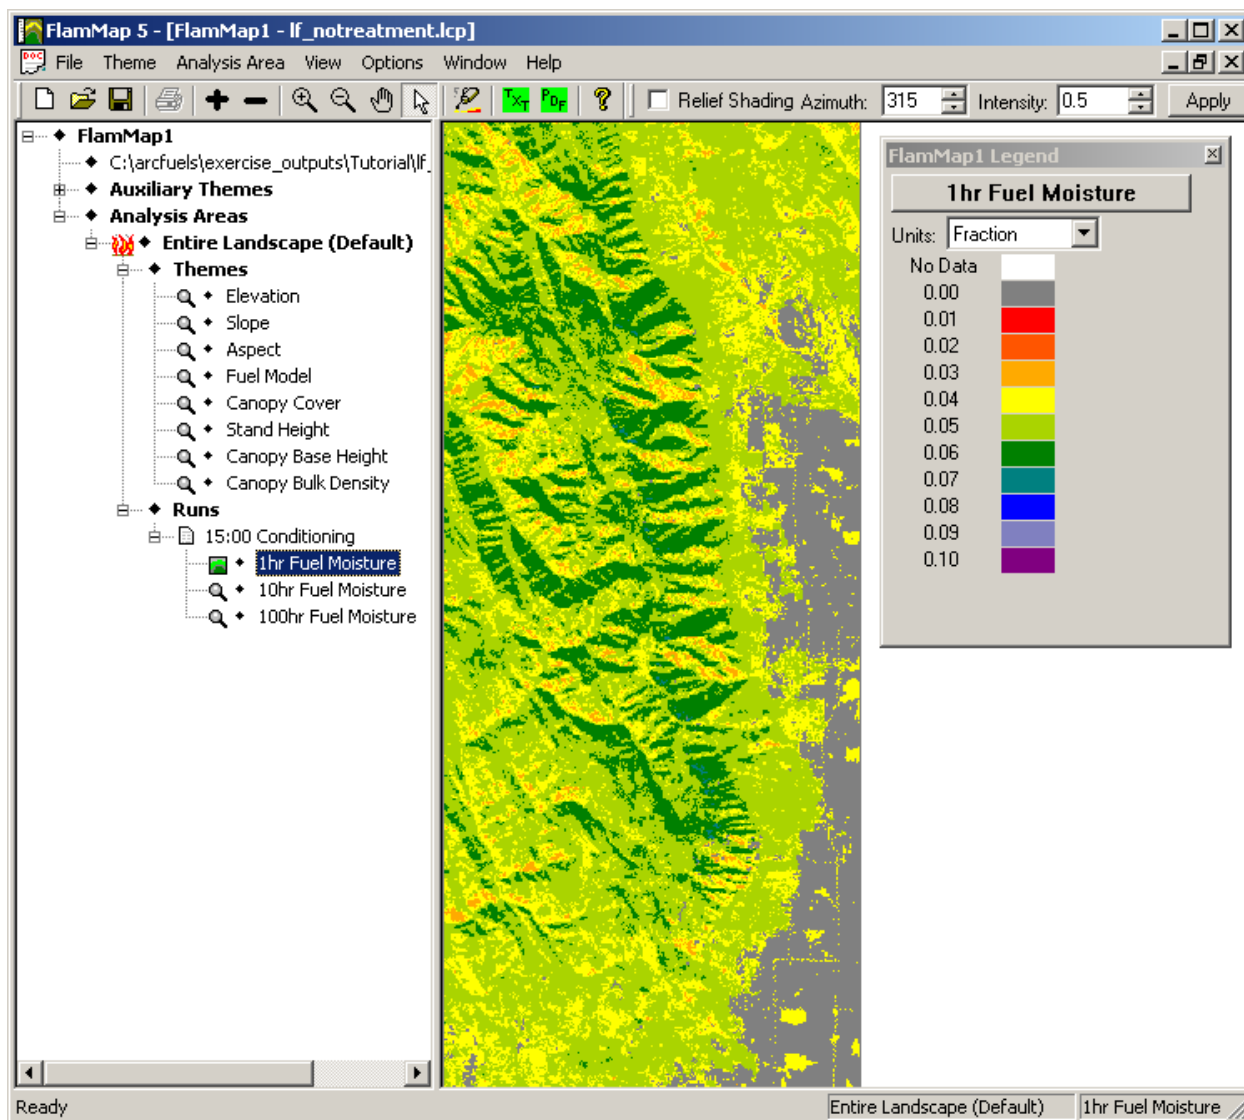

Figure 4-23—One-hour fuel moisture values after conditioning for 15:00 PM.
- 6) Under the Runs section, expand the 15:00 Conditioning run in the tree pane (fig. 4-23). Display the 1hr Fuel Moisture theme, and open the legend (double-click in the theme name). Notice the units are fractions rather than percentage, so a 0.03 fraction is 3% moisture. Remember the 1hr fuel moisture in the FMS file was 3% across the board, which is represented by orange in figure 4-23. Look at the map and think about why the fuel moistures changed where they did. Look at different themes from the LCP if that helps. Is it possible to have fuel moisture of 0? Hint: take a look at the fuel model layer. Look at the 10-hr and 100-hr fuel moistures themes as well.